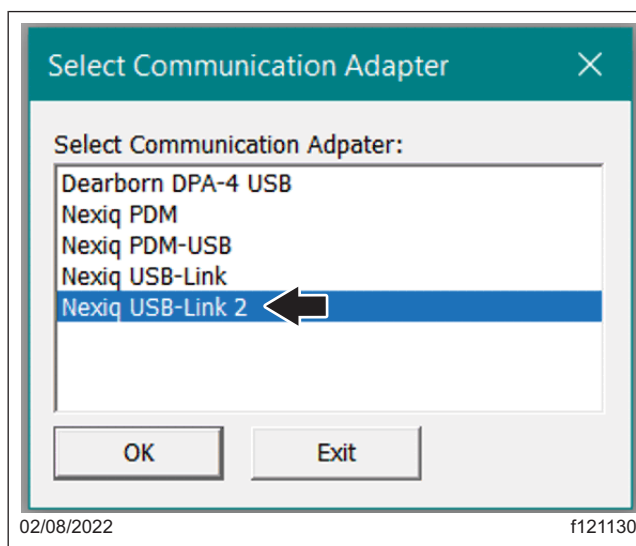

Fig. 9, Select Communication Adapter Window
6. In the 'Select Communication Adapter' window, select 'Nexiq USB-Link 2,' then select 'OK.' See Fig. 9.